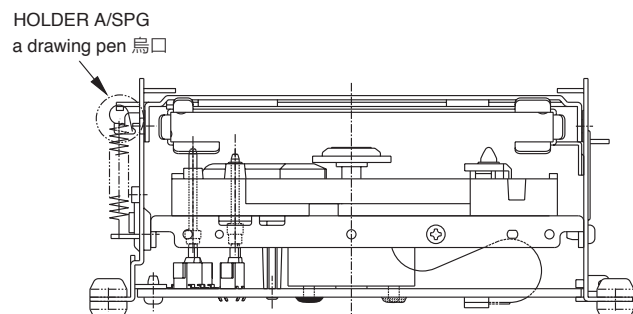

Fig. 6-2
- Reinstall the HOLDER A/SPG ④④ so that its drawing pen faces inward. (Fig. 6-2)
- HOLDER A/SPG ④④ は、鳥口が内側に向くように取り付けること。(Fig. 6-2)